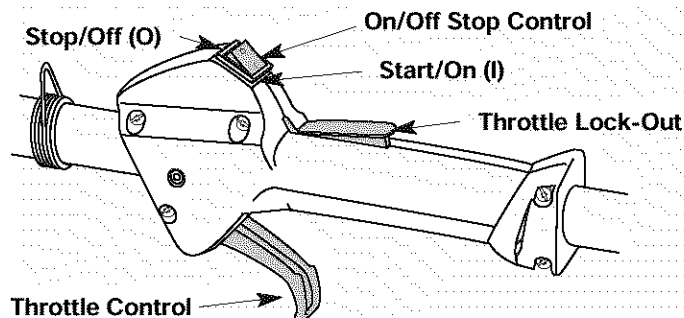

Fig. 20
3. Make sure the On/Off Stop Control is in the **ON (I)** position (Fig. 20).
2. Put the On/Off Stop Control in the **OFF (O)** position (Fig. 20).